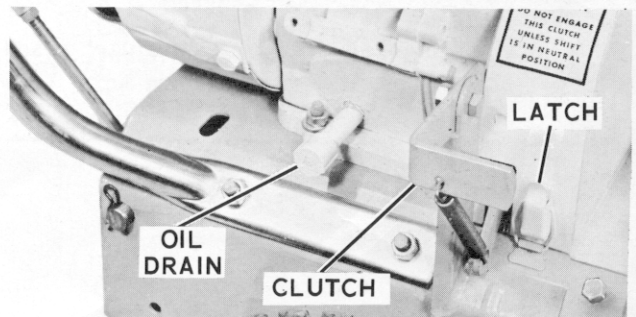

Figure 3
a. The engine clutch is controlled by a lever mounted on the right hand side of the unit (figure 3) just forward of the engine.